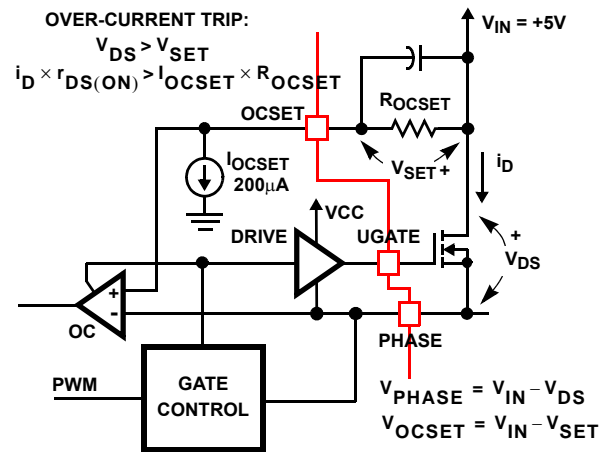

FIGURE 9. OVER-CURRENT DETECTION
An external resistor (ROCSET) programs the over-current trip level for the PWM converter. As shown in Figure 9, the internal 200µA current sink (IOCSET) develops a voltage across ROCSET (VSET) that is referenced to VIN. The DRIVE signal enables the over-current comparator (OC). When the voltage across the upper MOSFET (VDS(ON)) exceeds VSET, the over-current comparator trips to set the over-current latch. Both VSET and VDS are referenced to VIN and a small capacitor